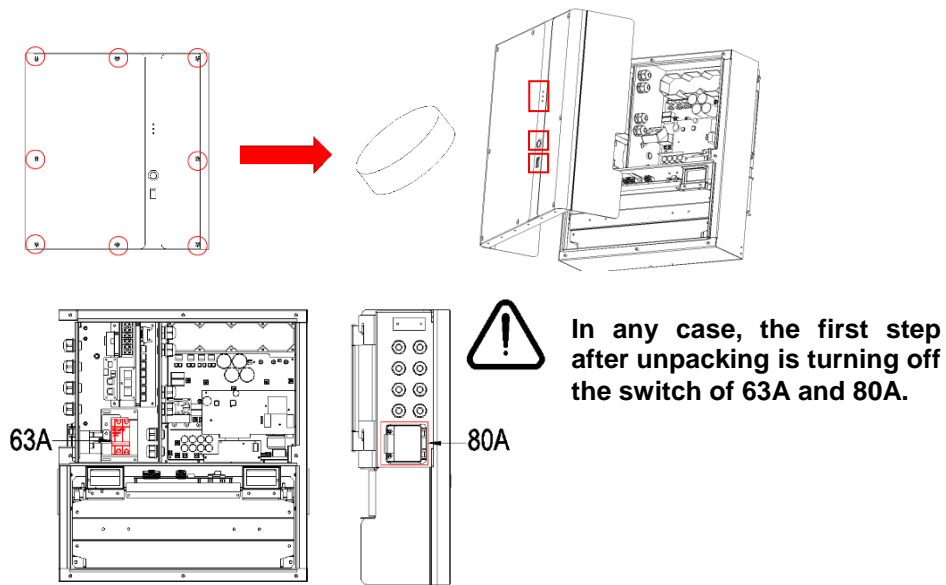

Figure 2.9 Take Down Storion-SMILE-B3 Upper Cover Plate
Step 4: Use the M5 internal hexagon wrench to unscrew the screws. After pulling out the connecting wire harness on the back of the upper cover plate, remove the B3 upper cover plate to prepare wiring, as shown in Figure 2.9.